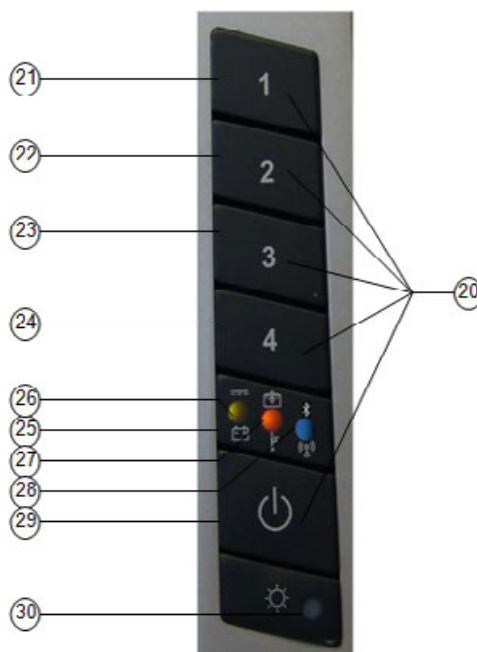
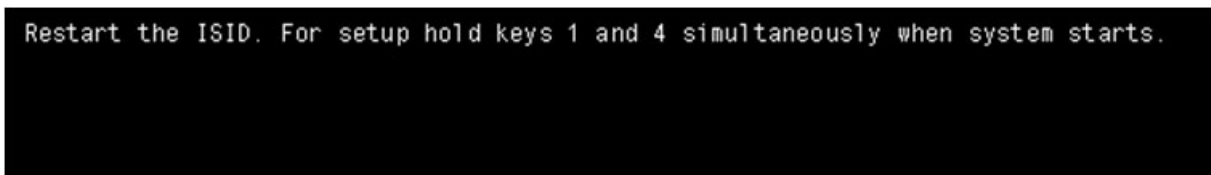
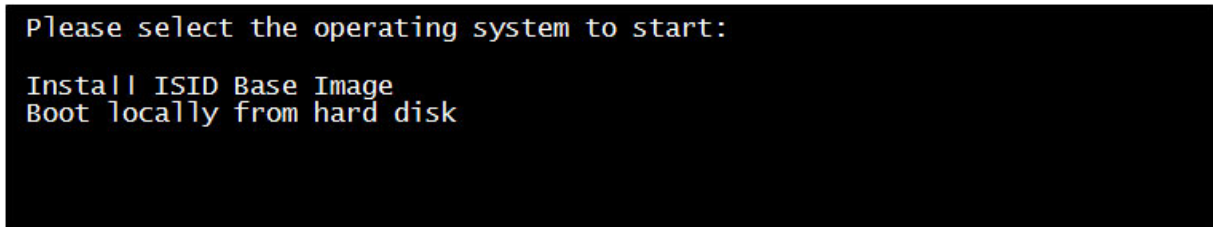

Fig. 53: Device buttons of the ISID operating unit
Fig. 55: Error message with lack of operating system
Fig. 56: ISID boot menu
- Start the ISID by pressing the on/off button (29) on the front of the operating unit (see Fig. 53). The LEDs (see Fig. 53: LED area (25) surrounding the LEDs (26), (27) and (28)) flash briefly in succession.
The operating unit has 5 device buttons (see Fig. 53: (20)) - buttons 1, 2, 3 and 4 and the on/off button.
- As soon as the prompt for setup (see Fig. 54) appears after switching on, simultaneously press device buttons 1 and 4 (see Fig. 53) buttons (21) and (24)).
<p>Information:</p> <p>This prompt (see Fig. 54) only appears for a few moments. When performing an initial installation, if you do not press the corresponding button combination in time, an error message appears (see Fig. 55) since at this point there is not yet an operating system on the ISID.</p> <p>In this case, proceed as follows:</p> <ul style="list-style-type: none">• Switch the ISID off by pressing the on/off button (29) (see Fig. 53) for approx. 5 seconds.• Restart the ISID by pressing the on/off button (29) (see Fig. 53).• Press buttons 1 and 4 (see Fig. 53 buttons (21) and (24)) simultaneously as soon as the prompt (see Fig. 54) appears on the display. <p>If the button combination is not pressed in time during a new installation, the ISID starts normally and displays the WSM user interface once the boot-up process has concluded.</p> <p>In this case, shut down the ISID via the WSM in a controlled manner, restart it (instructions can be found in chapter 6.7), and when the prompt is displayed (see Fig. 54), press buttons 1 and 4 simultaneously.</p>
After switching on the ISID for the image installation, a selection menu (boot menu) appears (see Fig. 56) with two possible selections.
A selection can be made by pressing buttons 1 and 2 on the front of the operating unit (see Fig. 53 buttons (21) and (22)). Press button 4 (see Fig. 53 button (24)) to confirm the selection.
<p>Information:</p> <p>If a new installation is inadvertently initiated by pressing buttons 1 and 4 (see Fig. 53 buttons (21) and (24)), this can be canceled either by selecting the option "Boot locally from hard disk" in the boot menu (see Fig. 56) or by disconnecting the LAN cable and then switching off the ISID.</p>